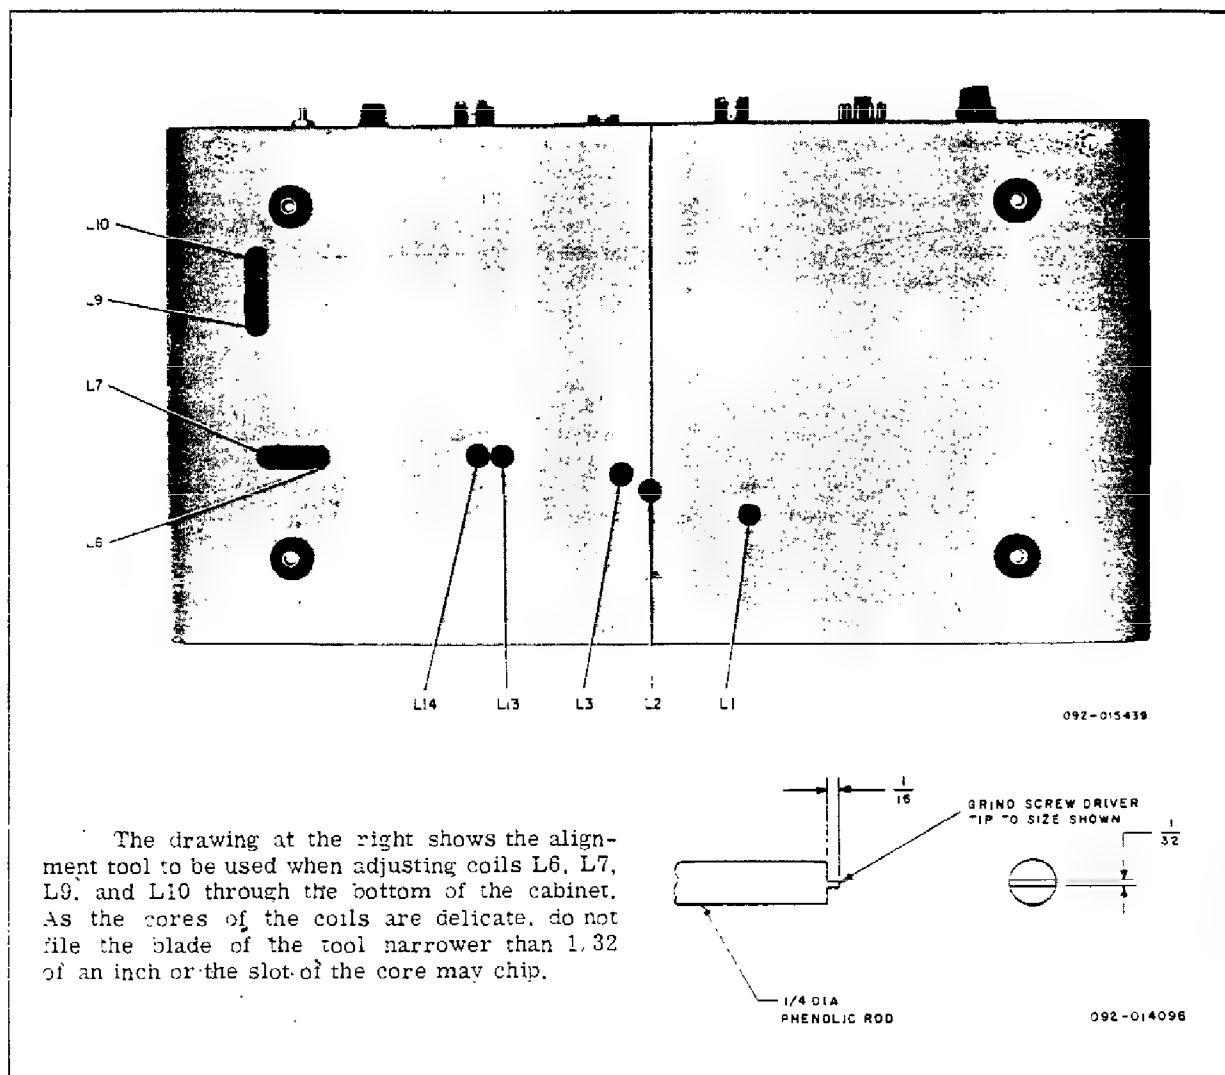

Figure 12. Bottom View of Transverter Cabinet, Showing Alignment Holes.
3. Set RANGE control at 52 MC to 54 MC and note the idle plate current. If it increases, adjust the pitch of the trap coil L5 for minimum idle plate current. Normally, the idle plate current in position 2 of the RANGE switch will be the same as in position 1 when the trap is correctly tuned to 48 MC (second harmonic of the 24-MC crystal). For this adjustment, use an insulated tool made of dry wood or phenolic similar to the alignment tool shown in figure 12.